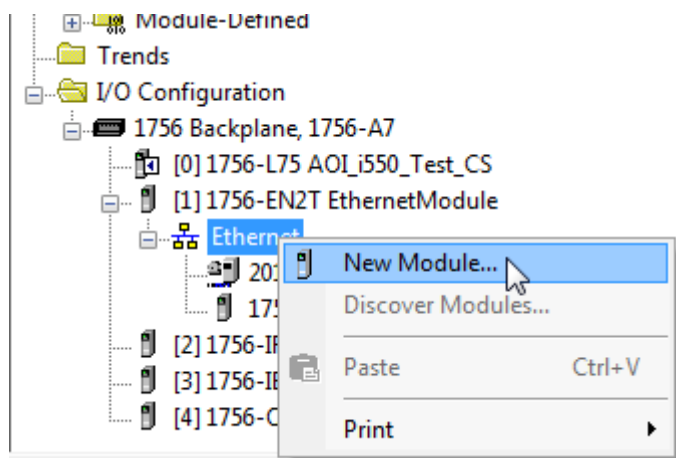

Figure 9: New Module
- 1) Add i550 drive as New Module to the Ethernet network. Select catalog number 2017-03-07-i550 from module list (Figures 9, 10).